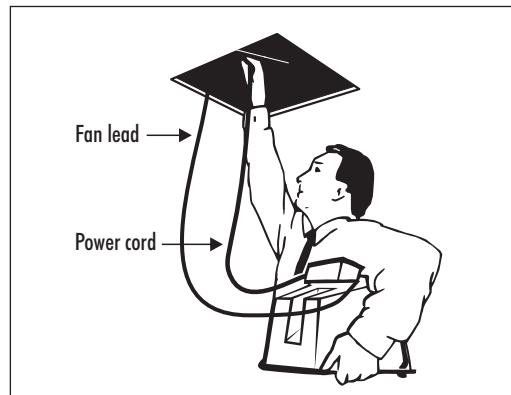

Fig. 12
1. Feed ducting and blower through hole in ceiling. While feeding ducting into ceiling direct it towards the installation position of the outlet grille. Position blower so that the short length of ducting is stretched out and Transition piece along striped or terminated wire is sitting next to the hole as seen in Fig. 12.